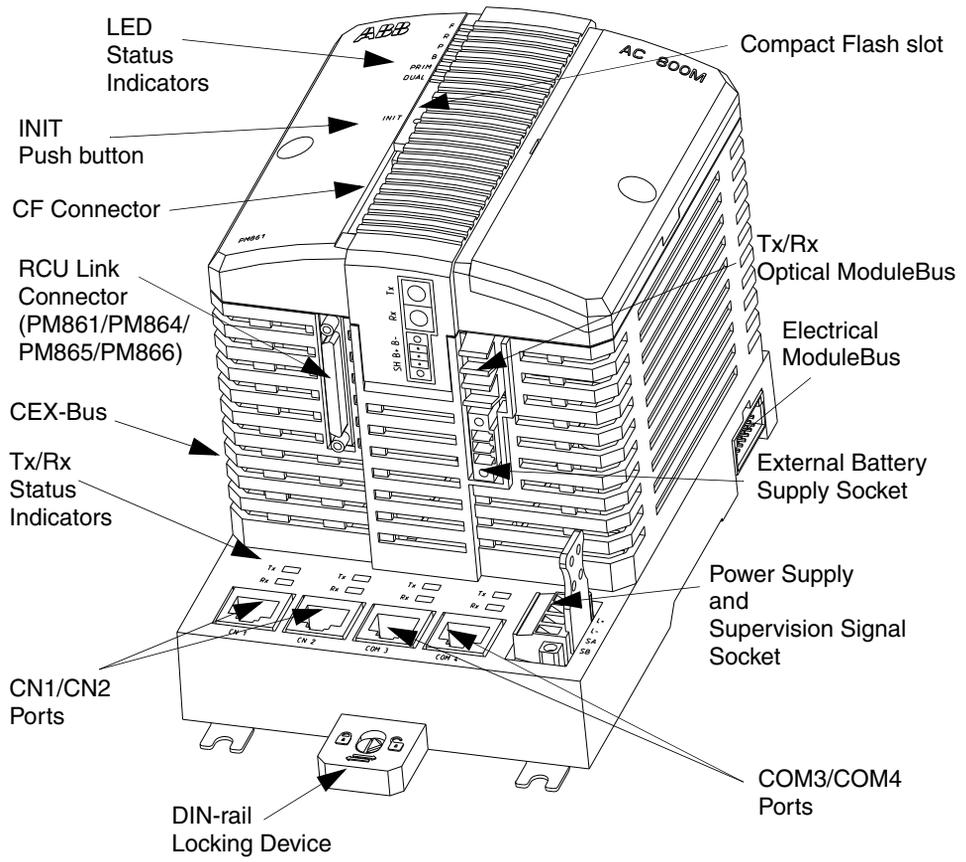

Figure 2. Processor Unit – General View (here shown with PM861)
**Figure 2** shows the PM861 processor unit that is part of the AC 800M controller. This processor unit is different from PM891.
The PM861/PM864/PM865/PM866 has an RCU Link Connector for connecting the RCU Link Cable (see Figure 2 on page 32). In a redundant system the two processor units are linked together with the RCU Link Cable (max 1 m). Both processor units are also connected to the same CEX-Bus and either of the two can control the expansion units (see Figure 29 on page 93).